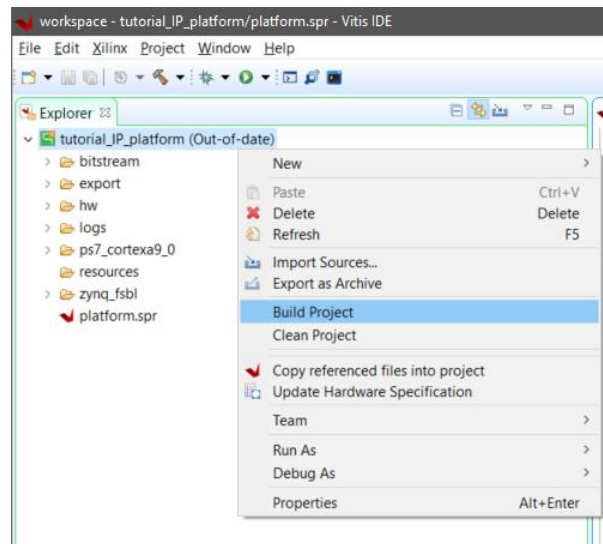

Figure 19
9. To generate the platform, right-click the platform project **tutorial_IP_platform (Out-of-date)** and select **Build Project** (Figure 19)